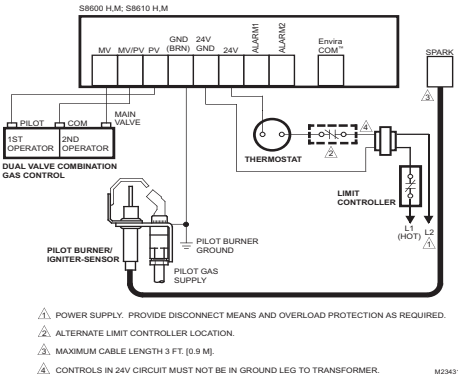

Fig. 3. S8600 H,M; S8610 H,M; connections in a heating system with an atmospheric burner.
- Fig. 3 is a basic circuit for the H and M models used in heating systems with atmospheric burners.